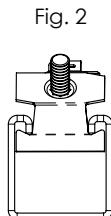

Fig. 2
- Fig. 2: Rotate clip and engage double tabs under rolled edge of channel.